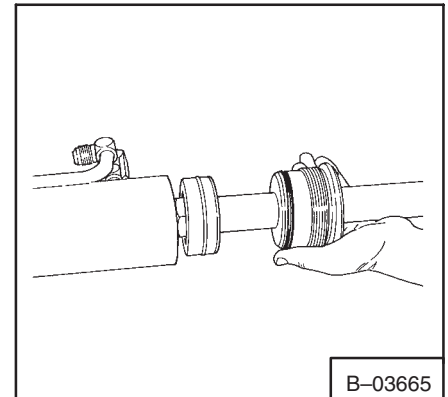

**Fig. 2-70** Tightening The Nut
14. Install the nut and tighten to 195–205 ft.-lbs. (264–278 Nm) torque (Fig. 2-70).